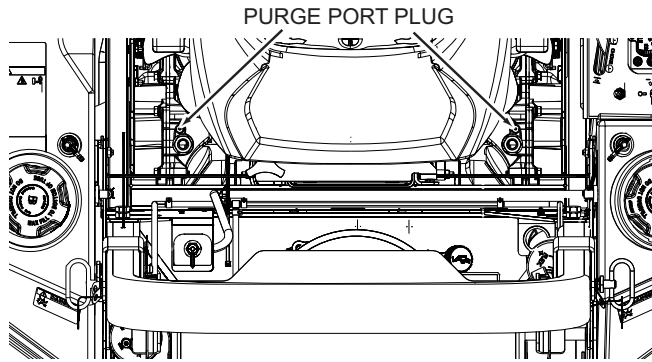

Figure 7-4. Axle Purge Port Plugs
8. Remove the purge port plug next to the inlet fitting on both axles. See Figure 7-4.
After the first 20 hours of operation, replace the engine oil filter. Thereafter, replace the oil filter after every 200 hours of operation or every month, whichever occurs first. Refer to Engine Operator's Manual for instructions. See Figure 7-4.